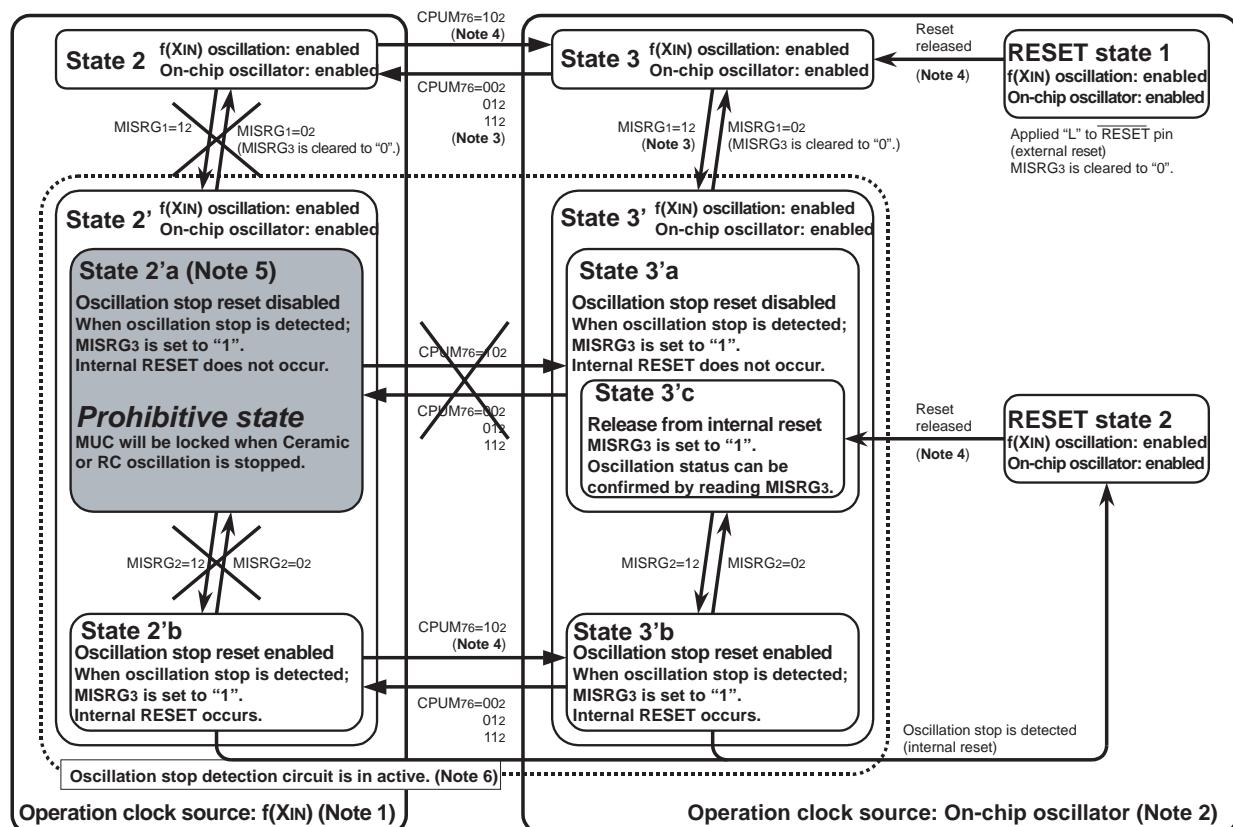

Fig. 86 State transition 2
- (1) Do not execute the transition to "state 2'a" shown in Figure 86